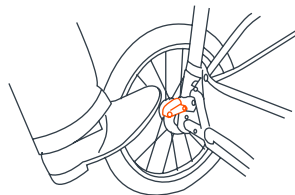

Fig. 14
- 14) • To engage brakes, apply light downward pressure to the brake lever located on each rear wheel. The stroller may require slight forward or rearward movement in order to line up the teeth on the brake with each wheel brake cluster (Fig. 14). **NOTE:** Check that the stroller will not move and that both brakes are properly applied. To release, gently lift up on the brake lever.